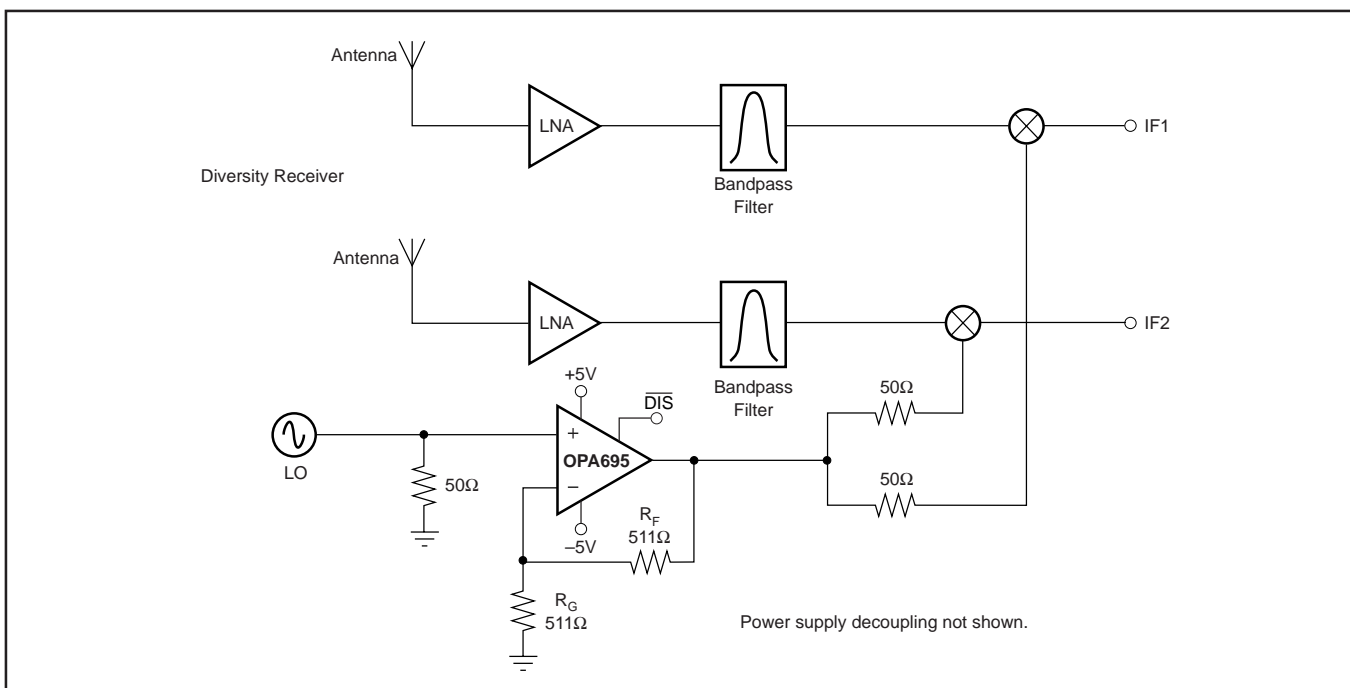

FIGURE 8. Dual Output LO Buffer.
The OPA695 may also be used to buffer the Local Oscillator (LO) from the mixer(s). Operating at a voltage gain of $+2$, the OPA695 will provide almost perfect load isolation for the LO with a net gain of 0dB to the mixer. Applications through 1.4GHz LOs may be considered, but best operation would be for LOs < 1.0 GHz at a gain of $+2$. Gain could also be easily provided by the OPA695 to drive higher power levels into the mixer. One unique option in using the OPA695 as an LO buffer is shown in Figure 8. Since the OPA695 can drive multiple output loads, two identical LO signals may be delivered to the mixers in a diversity receiver simply by tapping the output off through two series 50Ω output resistors. This circuit is set up for a voltage gain of $+2V/V$ to the output pin for a gain of $+1V/V$ (0dB) to the mixers, but could easily be adjusted to deliver higher gains as well.